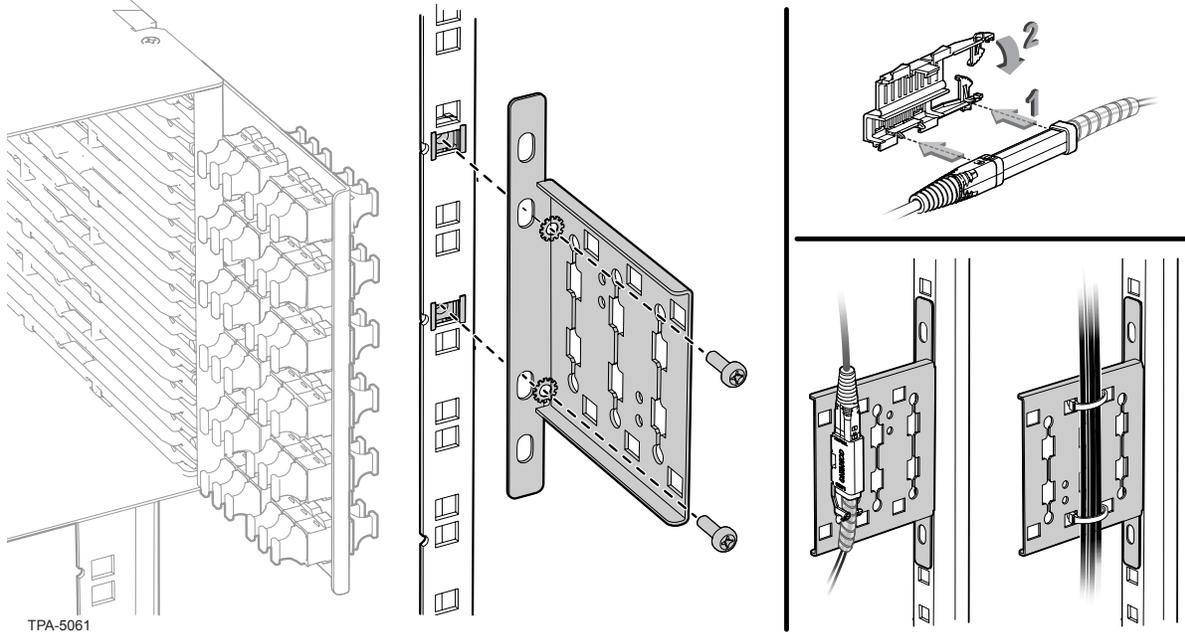

Figure 3
Step 3: Attach the strain-relief bracket (P/N CTX-KIT-S4U-MTP-SR) for the 4U housing example shown to the frame (Figure 3). Use CTX-KIT-S2U-MTP-SR for a 1U or 2U housing